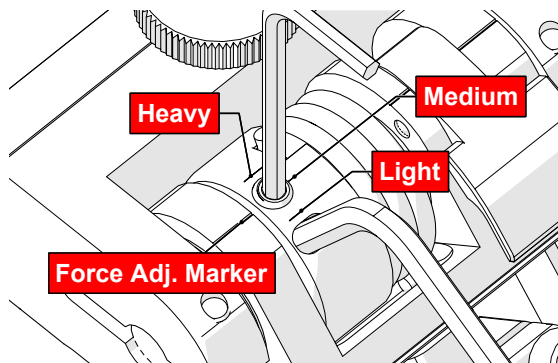

Fig. 69 - Choose desired tension
6. Gently apply pressure on the long leg of the 3 mm hex wrench until the force adjustment marker lines up with the desired spring tension. While keeping the markers in line, tighten the force adjustment screw (Fig. 69).